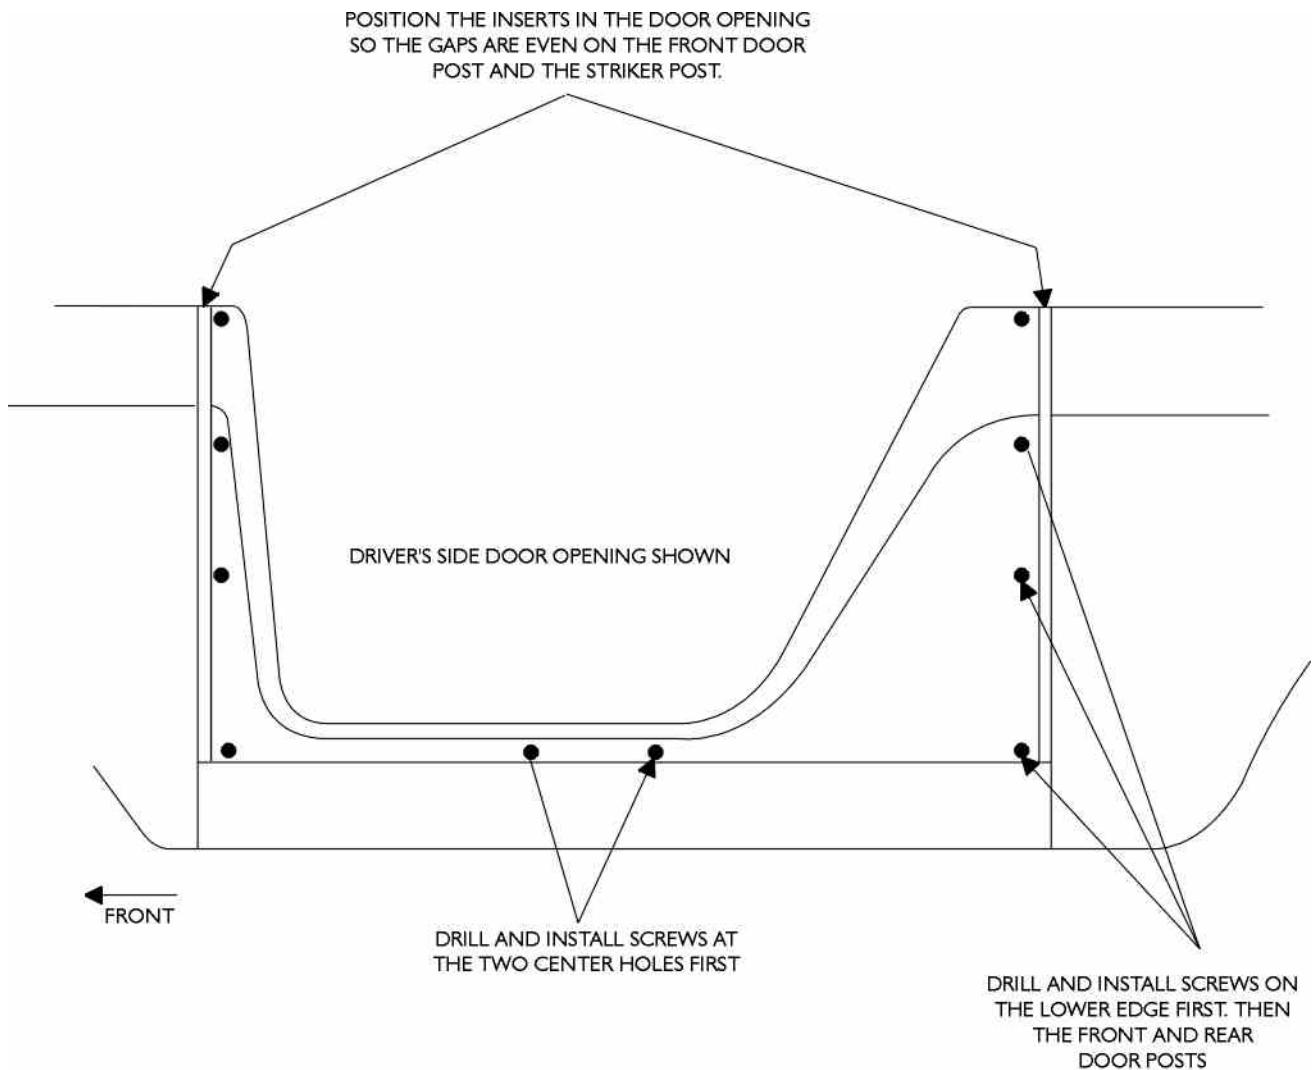

FIGURE 1
10. Using a 1/8" drill bit, carefully drill the two lower center holes on the rocker panel and secure the insert using #8 x 2 sheet metal screws. See Figure 1.